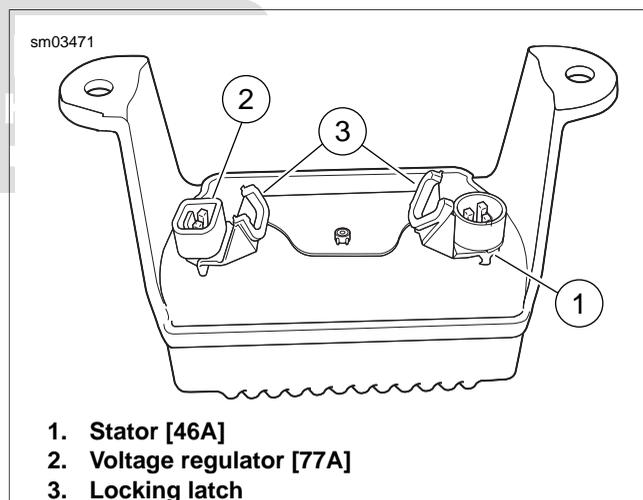

Figure 8-2. Voltage Regulator (Bottom View)
3. Release conduit from P-clips under left and right side legs of voltage regulator. Allow voltage regulator to hang upside down at front of lower frame crossmember. See Figure 8-2.
1. Position voltage regulator upside down at front of lower frame crossmember. See Figure 8-2.